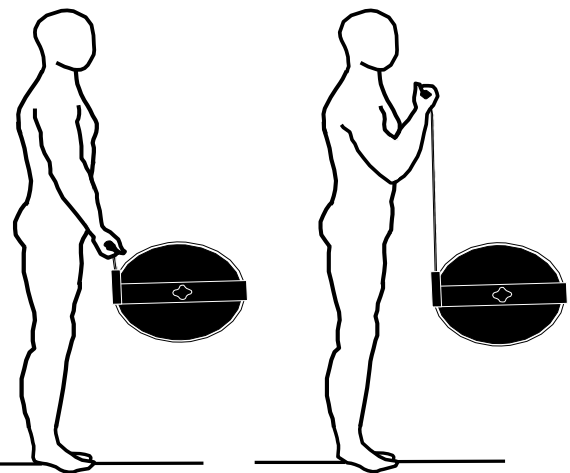

Figure 2
3. Adjust the exercise head height so the subject can comfortably hold the handle in the knuckle position. Enter the height in the NOTES field if desired. Demonstrate to the subject the motion being tested (knuckle to shoulder height lift), and the proper positioning as described below (Figure 2).